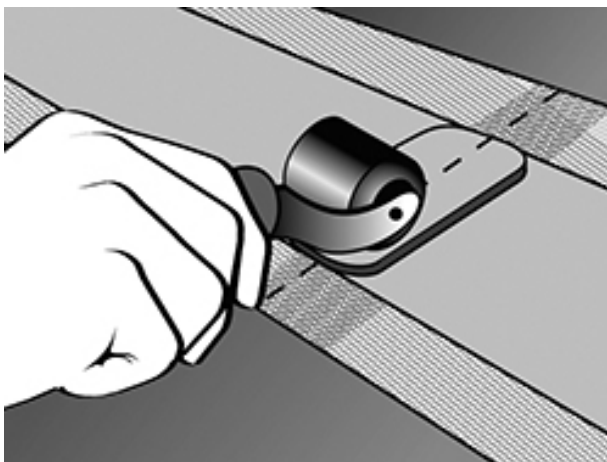

Figure 5
4. To make the "cold-welding" of the parts in *Mapeband TPE* easier and firmer, press lightly with a flat carpeting roller (Figure 5).
- To make the “cold-welding” of the parts in *Mapeband TPE* easier and firmer, press lightly with a flat carpeting roller (Figure 5).